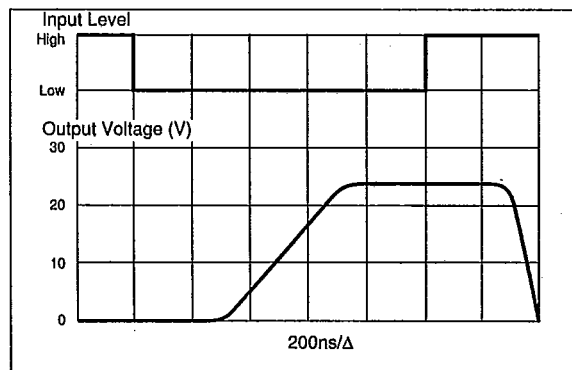

Figure 8. Timing diagram, typical timing input vs. output.  $V_{cc} = 24V$ .
- Figure 8 shows the timing diagram for input-output delays with a resistive load.